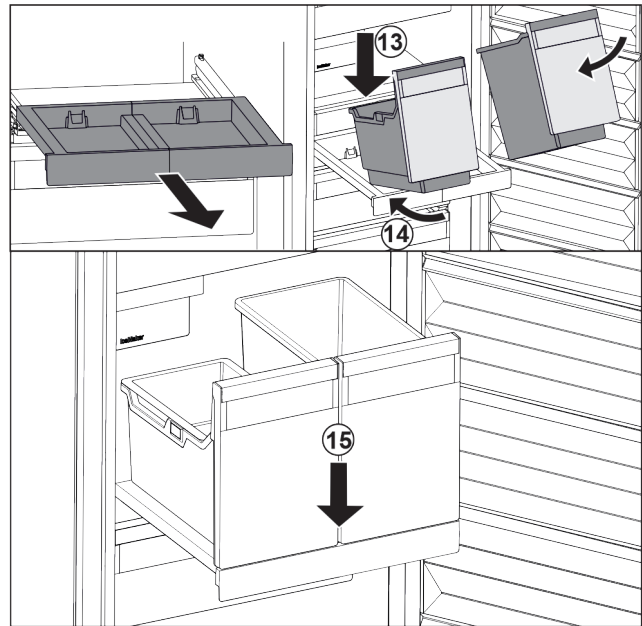

Fig. 102
- ▶ Place the container at an angle on the pull-out board. Fig. 102 (13)
- ▶ Slide the container to the back at an angle. Fig. 102 (14)
- ▶ Place container in the front. Fig. 102 (15)